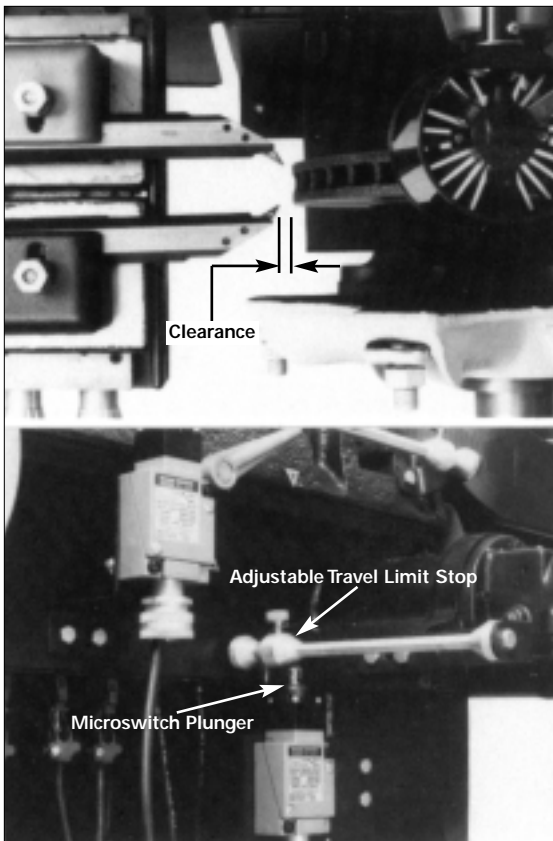

Figure 6 - Setting Limit Switch For Face Cut
8. Set the saddle travel limit switch by either estimating the travel necessary to cut the full width of the rotor faces or, if cutting several rotors having the same outside diameter, crank the saddle out so the tool bits are 1/4" to 1/2" outside the rotor. Be sure all feed gearbox levers are in the DISENGAGE position. Slide the adjustable travel limit stop against the microswitch plunger, Fig. 6. The feed motor will shut off as the ramp of the